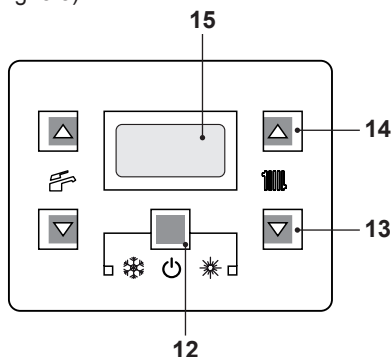
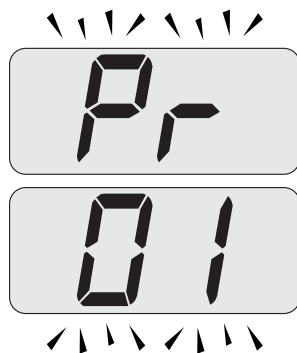

Fig. 8.7
Fig. 8.8
- Enter in "programming mode" by sequentially pressing and holding keys 12 - 13 - 14 (Fig. 8.7) for 10 seconds at the same time until the letters **Pr** that alternate with code 01 are displayed on the LCD display, indicating that "parameter 01", has been activated (Fig. 8.8).
- Press keys 12 and 14 (Fig. 8.7) at the same time until the value of parameter 15 (Fig. 8.10) is displayed on the LCD display.
- By pressing key 12 (Fig. 8.7) confirmation of the inserted value is obtained.
- Press keys 12 and 13 (Fig. 8.7) at the same time to exit without changing the value (return to the parameters list Fig. 8.9).
- Press sequentially keys, 12 - 13 and then 14 (Fig. 8.7) and hold in for 10 seconds to exit the "programming mode".
ing system can be increased or reduced by $\pm 15^{\circ}\text{C}$ by pressing keys 13 (reduce) and 14 (increase) (Fig. 8.7).